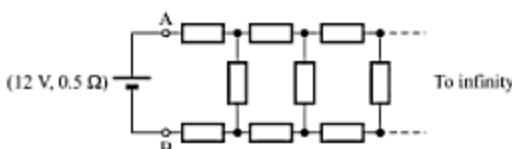

Fig. 2.39
13. Calculate the current drawn from a 12-V supply with internal resistance 0.5Ω by the infinite ladder network, each resistance being 1 ohm, in Fig. 2.39.